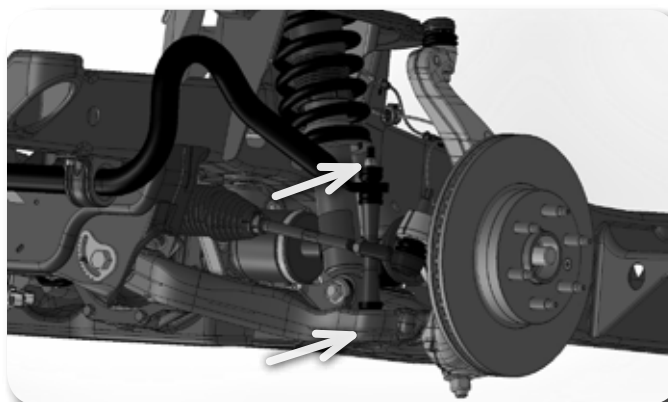

Figure 1
2. Remove the sway bar links from the vehicle. They are attached with a through bolt. Save all components for re-installation. **Figure 1**